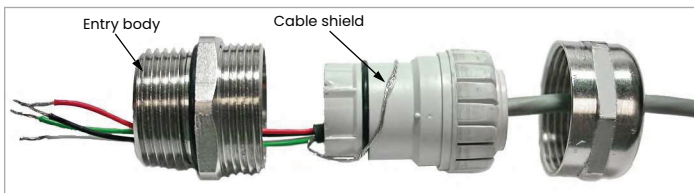

Figure 89: Proper cable gland assembly (Panametrics p/n 419-215)
- b. Route the 4-wire power/analog output cable through the cable gland as shown in *Figure 89* below.
The cable shield must be terminated in the cable gland as shown in *Figure 89* below.
- b. Route the 3-wire RS232 cable through the cable gland as shown in *Figure 89* on page 63.
The cable shield must be terminated in the cable gland as shown in *Figure 89* on page 63.